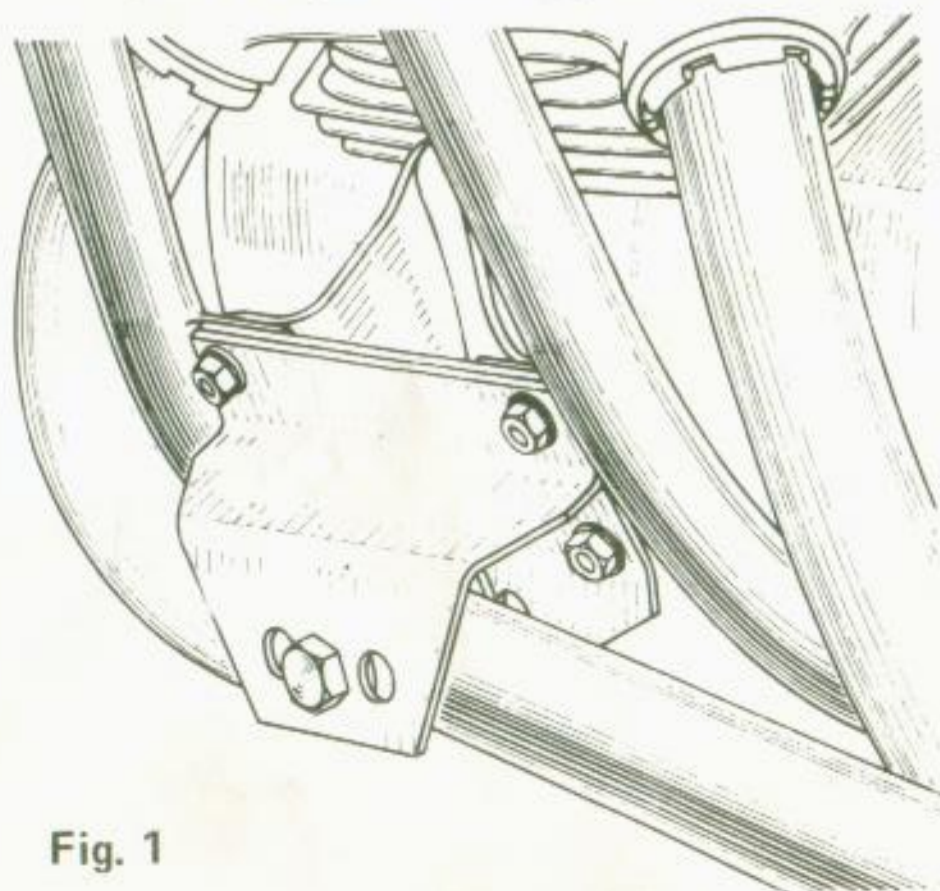

Fig. 1
(b) Remove the four bolts from the front engine mounting plate and attach the front lower mounting bracket using the longer bolts supplied. Leave the bolts slack. (See fig.1).
- (c) Assemble the front lower arm in the same manner as (b), fitting the securing bolt in the centre of the three hole pairs in the plate. (See fig.1).